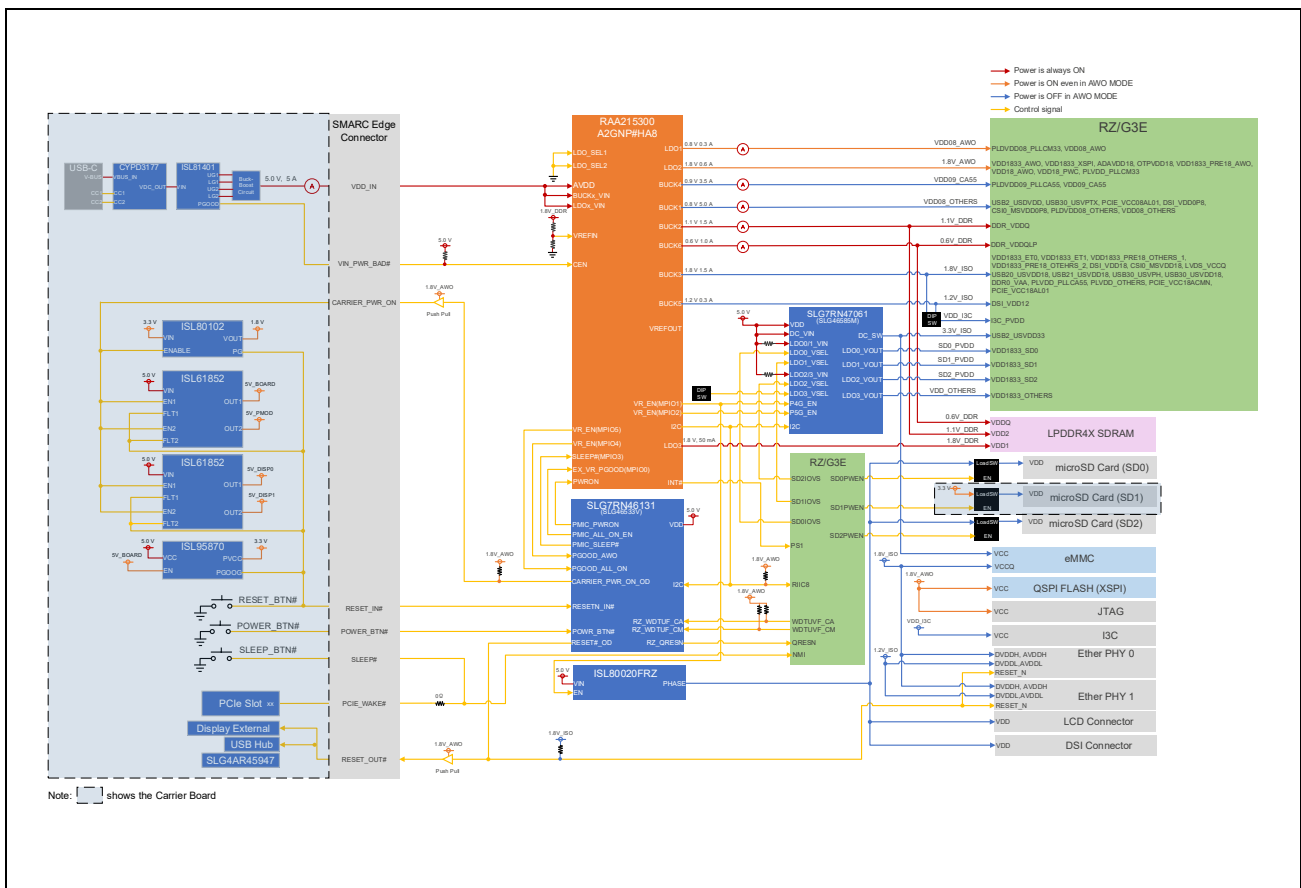

Figure 3.1 Power System Circuitry of G3E SMARC EVK
**Figure 3.1** shows a block diagram of power system of the G3E SMARC EVK.